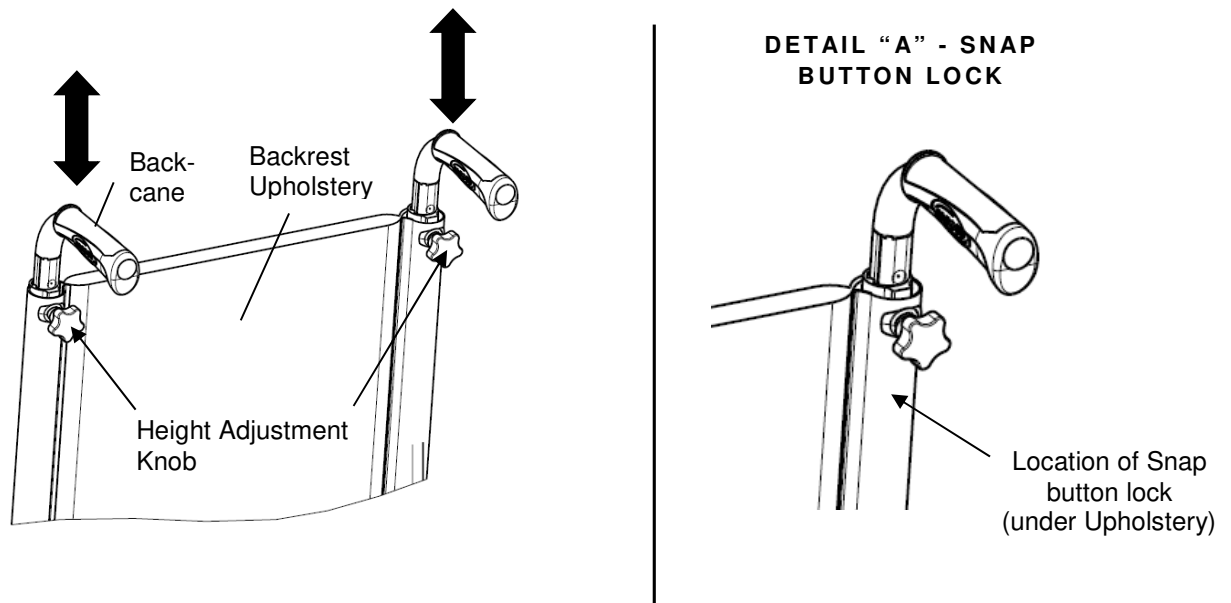

FIGURE 4.6 Adjusting the Height Adjustable Backrest-cane
3. Slide the upper parts (cross brace and internal parts), on both sides, to the desired width using the predefined holes (SW1, SW2, SW3, SW4), adjust the central bolt to its new position. (refer to the FIGURE 4.6, see Width Table, follow the L1 or L2 values according to the selected width).
NOTE: For this procedure, refer to FIGURE 4.6.